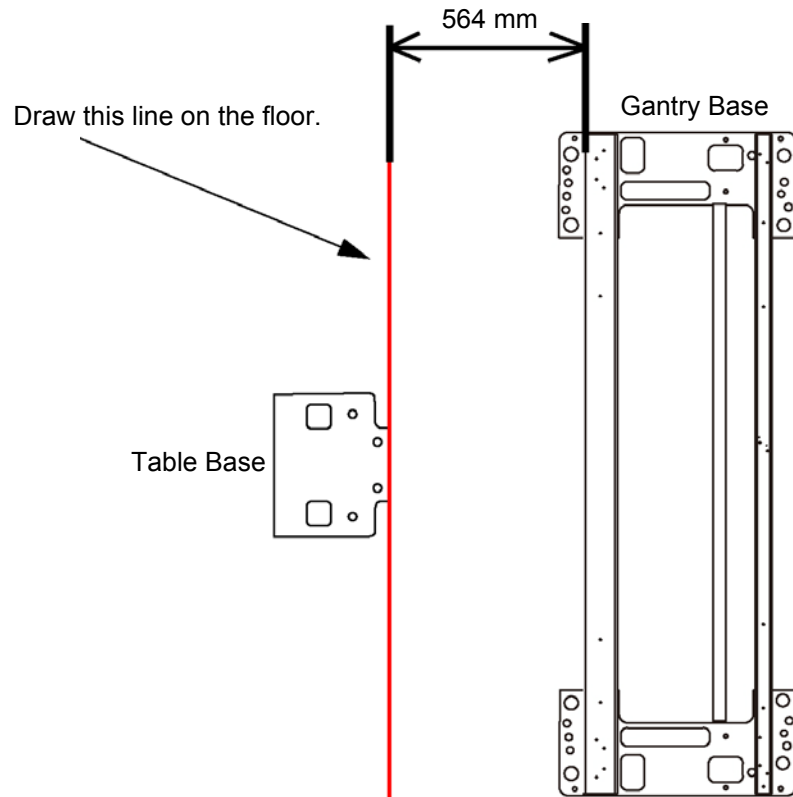

Figure 1-39 Draw Reference Line
- 1.) Draw a reference line of 564mm position from Gantry Base on the floor as shown in the Figure 1-39.
- 3.) Check that table base is centered over the table center line, and the base is on the 564mm line made on the floor, see Figure 1-39.